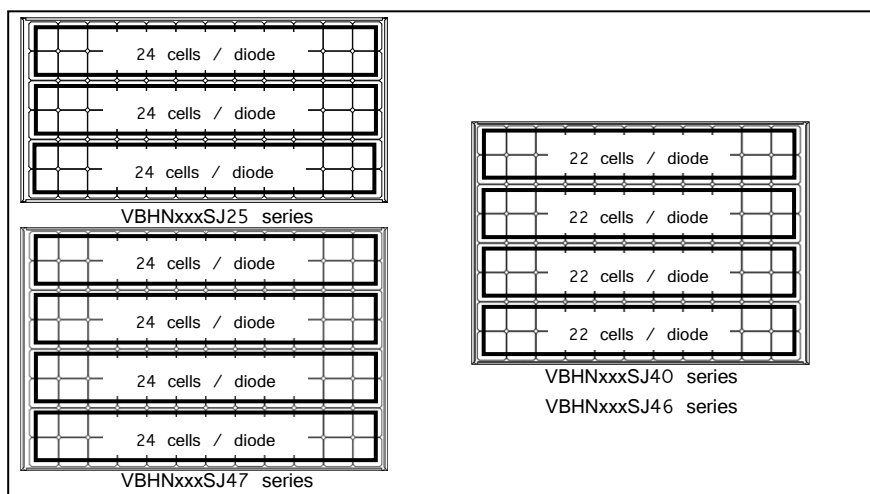

Figure 4: Number of series cells per bypass diode
- Specifications of bypass diode for VBHNxxxSJ25 series are as follows; Number of bypass diode: 3 diodes, Number of series cells per bypass diode: 24 cells / diode. Specifications of bypass diode for VBHNxxxSJ40 series and VBHNxxxSJ46 series are as follows; Number of bypass diode: 4 diodes, Number of series cells per bypass diode: 22 cells / diode. Specifications of bypass diode for VBHNxxxSJ47 series are as follows; Number of bypass diode: 4 diodes, Number of series cells per bypass diode: 24 cells / diode (See Figure 4).